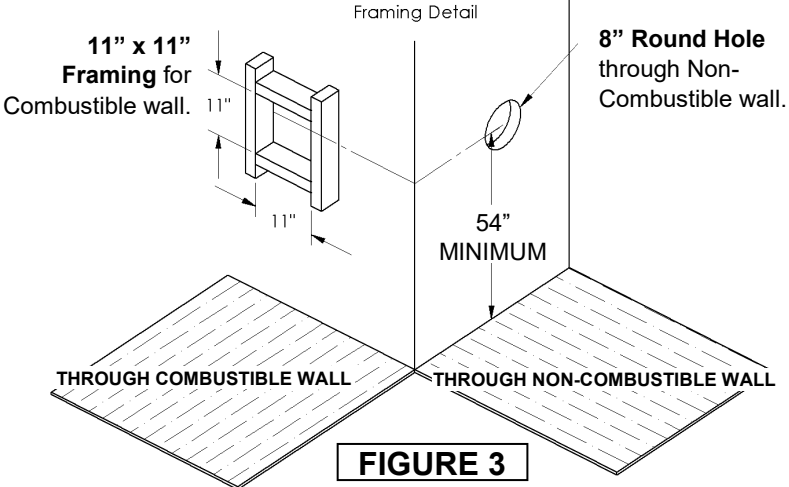

FIGURE 3
1. Use the Venting Table to determine the minimum distance from the bottom of fireplace to center of vent. Cut a hole through the wall allowing for an 11" x 11" (inside diameter) in combustible walls for wall thimble or an 8" diameter hole in a non-combustible wall (See Figure 3).
8. Support horizontal pipes every two (2) feet (61 cm) with metal strap bands. Re-check fireplace to make sure it is levelled and properly positioned and secured.